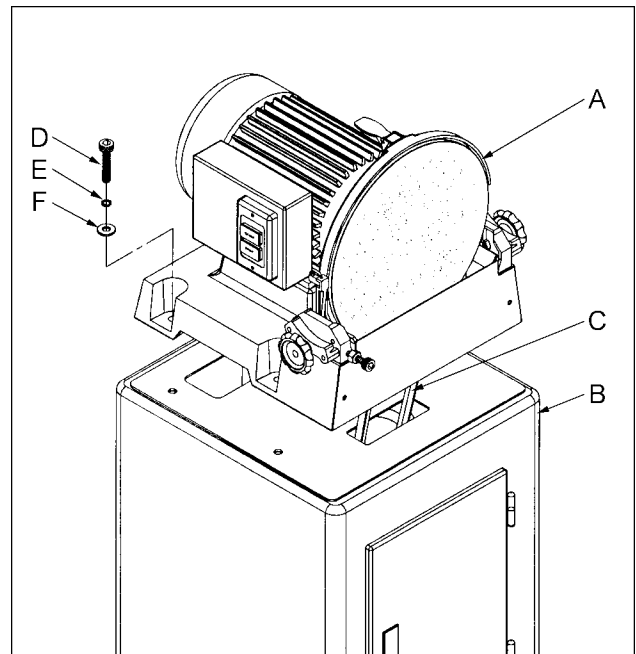

Fig. 1
1. With the help of another person lift the sander (A, Fig. 1) onto the stand (B, Fig. 1). Feed the belt (C, Fig. 1) through the cut out in the top of the stand.
3. Bolt the sander to the stand with *four* M10x35 socket head cap screw (D, Fig. 1), *four* M10 lock washers (E, Fig. 1) and *four* M10 flat washers (F, Fig. 1). Tighten the nuts to secure the sander to the stand.